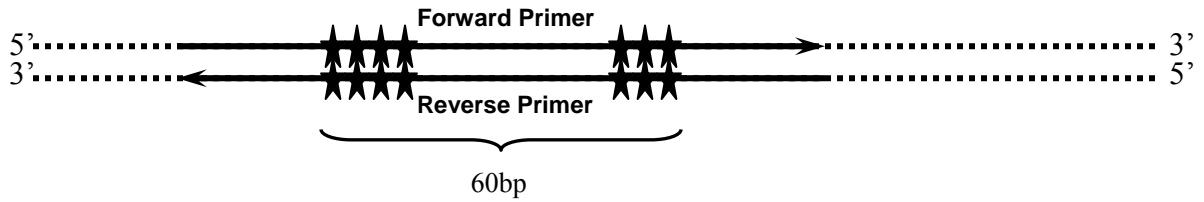

Fig 3. Location and Direction of Forward and Reverse Primers
**Note** If two mutation sites are separated less than 44 bases, they are viewed as a single mutation site. The total length of the sequences of these two mutation sites and between them should be less than 60bp(see Example 2 and Fig 3).